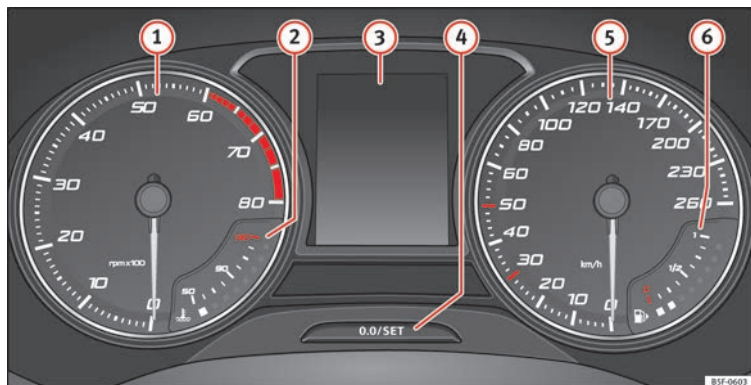

Fig. 120 Instrument panel, on dash panel
Details of the instruments » **Fig. 120:**
The rev counter indicates the number of engine revolutions per minute »» Fig. 120 1.
Never allow the rev counter needle 1 »» Fig. 120 to go into the red zone on the
A variety of information can be viewed on the instrument panel display »» Fig. 120 3, depending on the vehicle equipment:
- Briefly press the button »»» Fig. 120  to re-set the trip recorder to 0.
- To set the time, keep the button »»» Fig. 120  pressed for more than 3 seconds to select the hour or minute display.
Hold the button **» Fig. 120 ④** down for more than 15 seconds to display the identifying letters of the vehicle engine (MKB). To do this, the ignition must be switched on and the engine switched off.